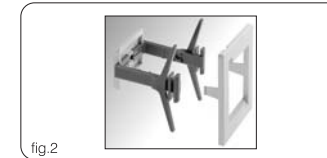

fig.2
- panel mounting with optional kit (fig. 2).